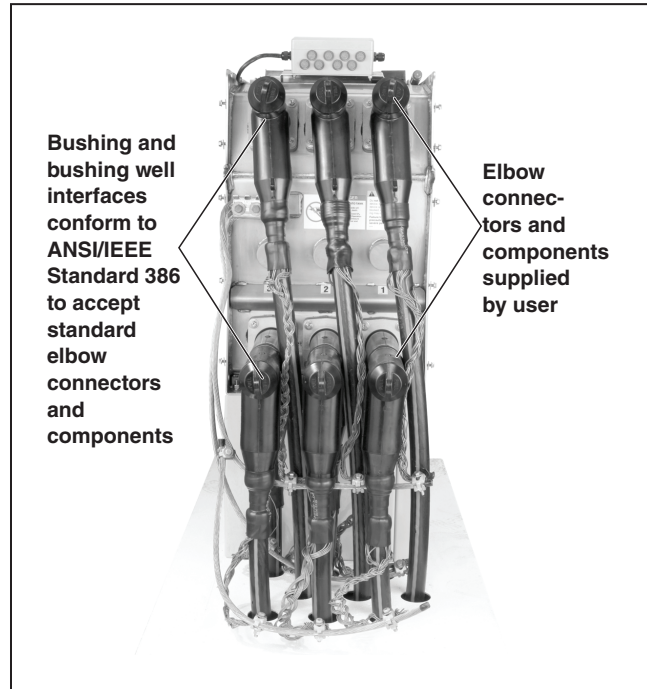

Figure 10. The elbow connectors.
**STEP 2.** Assemble the elbow connectors to the cables following the elbow connector manufacturer's instructions. See Figure 10.